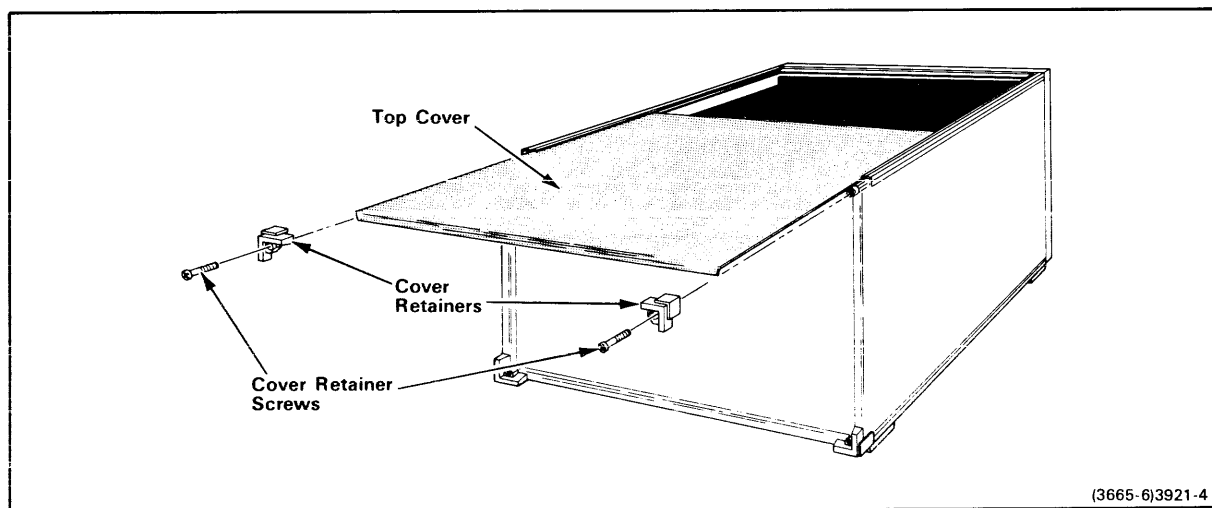

Fig. 3-2. Removing the 8540 top cover.
Set the 8540 on the surface so that you are facing the rear panel. Using a Phillips screwdriver, remove the two upper cover retainers, as shown in Fig. 3-2. Slide the top cover back and off the 8540.
1. From the rear panel, slide the top cover into the two grooves along the top edges of the mainframe. See Fig. 3-2.